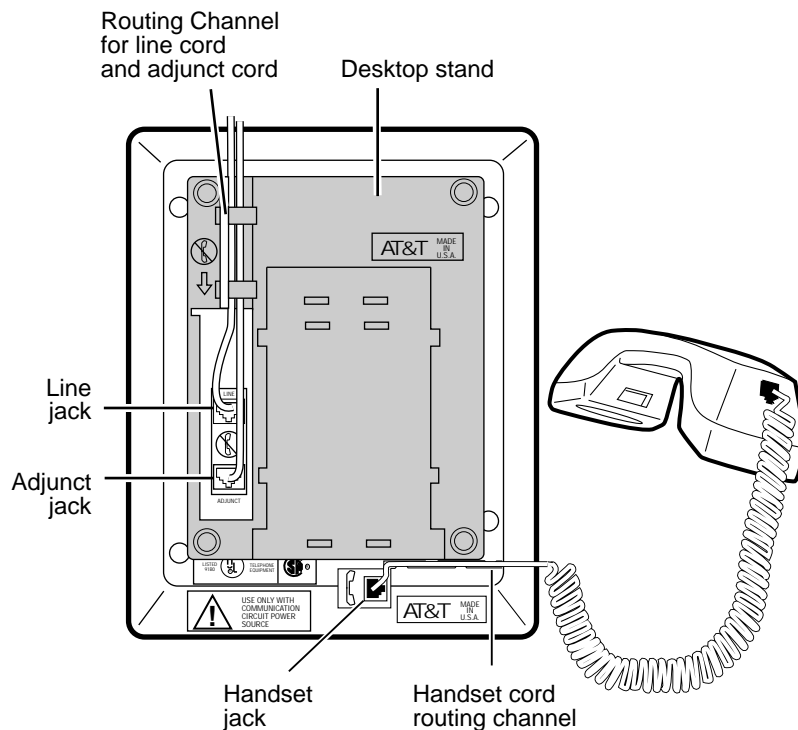

FIGURE 7-7. Line, Adjunct, and Handset Cord Routing for Desktop Installation
7. Pass the line cord (and adjunct cord, if applicable) through the routing channel leading to the top of the desktop stand, as shown in Figure 7-7.
8. Snap one end of the coiled cord into the Handset jack (marked with the handset symbol) on the back of the voice terminal, as shown in Figure 7-7. Thread the cord into the channel leading to the side edge of the voice terminal; the handset cord will then lead off the side of the 8503T.